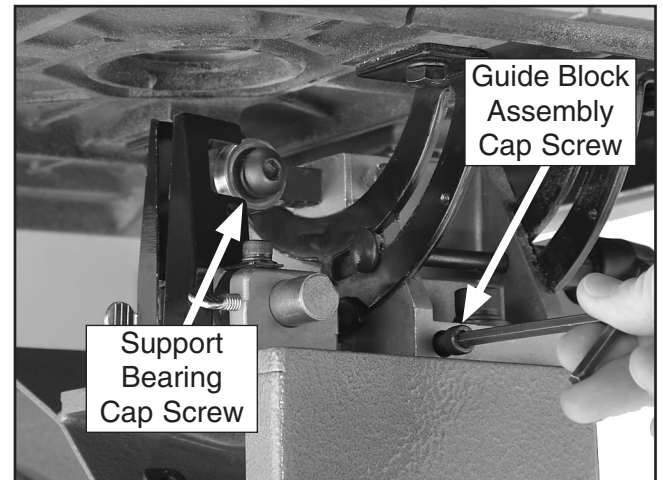

Figure 5. Loosening guide block shaft cap screw.
- Loosen the guide block assembly cap screw (**Figure 5**) and remove the lower blade guide assembly.
- Remove the support bearing cap screw (**Figure 5**), support bearing, and lock washer.